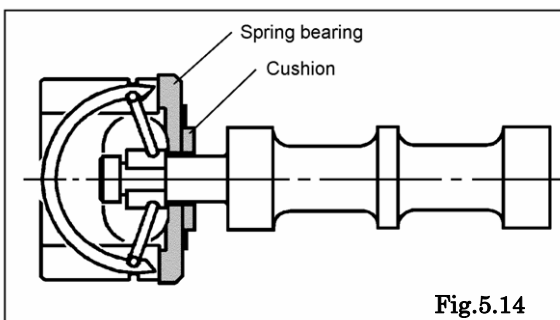

Fig.5.14
- Spring bearing [Fig.5.14]
- Cushion [Fig.5.14]